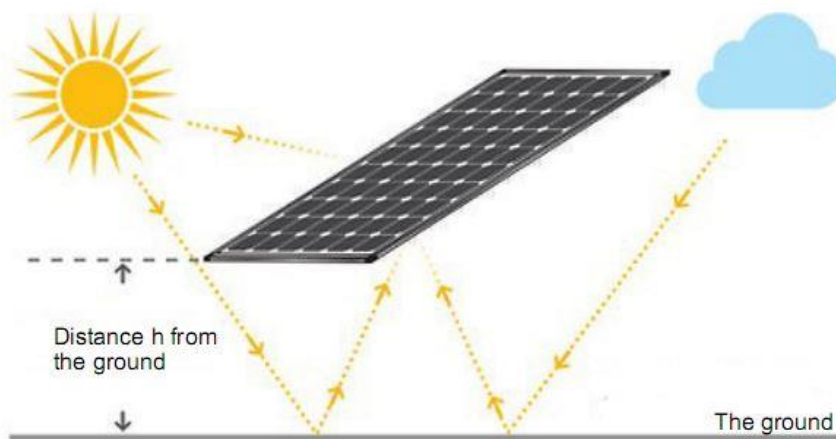

Fig. 7-2 Distance from the earth
- Due to the different ground clearance height will affect the power generation gain, it's recommended to install the solar module at a height from 0.5m to 2m. See Fig. 7-2.